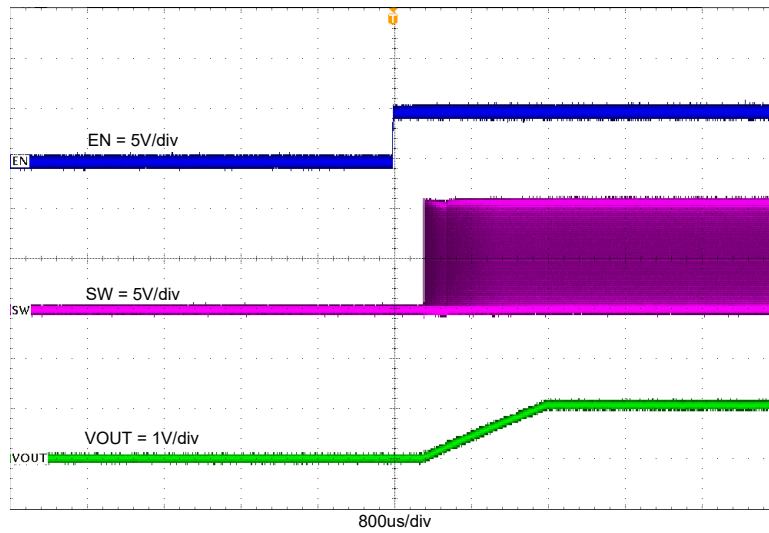

Figure 3-4. TPS562243EVM Start-Up Relative to EN
Figure 3-4 shows the TPS562243EVM start-up waveform relative to enable (EN). The load is 2A.